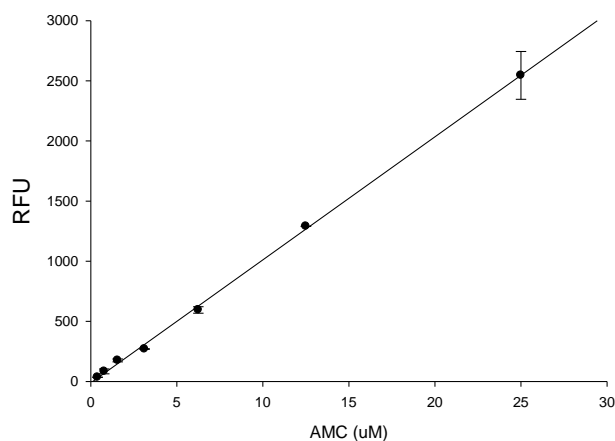

Figure 1. AMC reference standard calibration curve.
- Plot AMC fluorescent reference standard as RFU (relative fluorescent unit) versus concentration as shown in **Figure 1**.